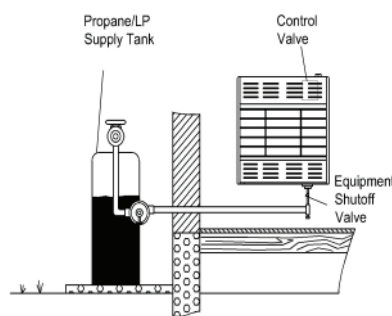

Figure 16 -Checking Gas Joints
3. Check all joints from gas meter to equipment shutoff valve (see Figure 16). Apply mixture of liquid soap and water to gas joints. Bubbles forming show a leak.
4. Check all joints from equipment shutoff valve to control valve (see Figure 16). Apply mixture of liquid soap and water to gas joints. Bubbles forming show a leak.